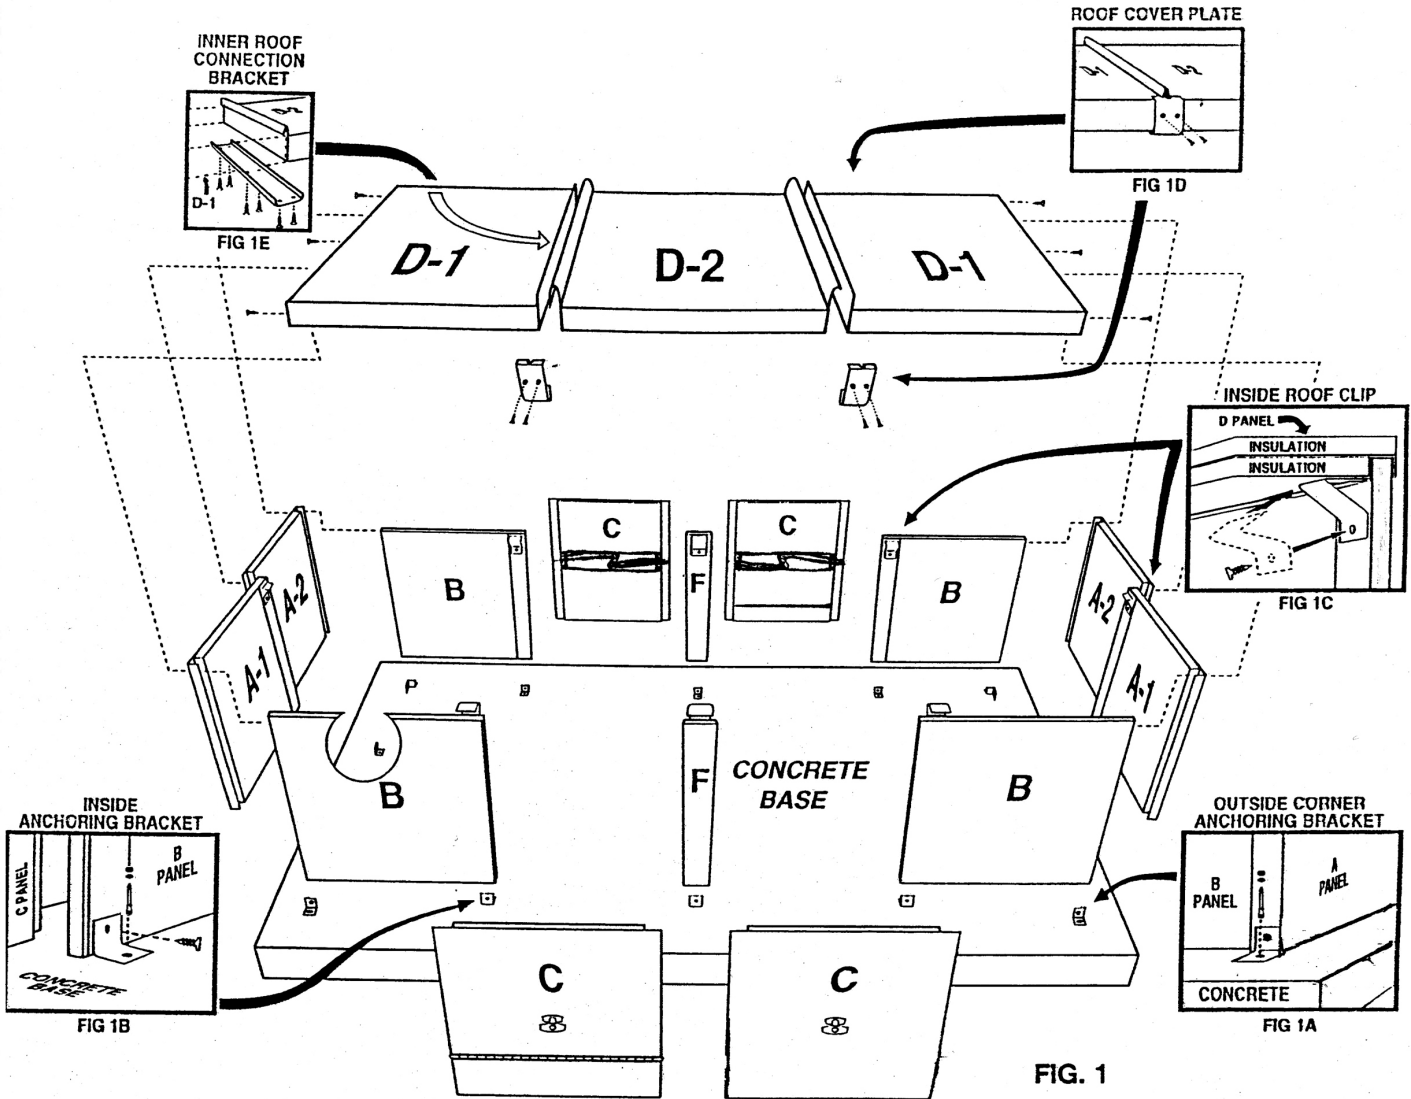

FIG. 1
3. Set "D1" (roof) panel on "A-B" section. Using three (3) hexhead screws fasten "D1" (roof) to "A-B" section thru holes provided (FIG 1).
- D. Using one (1) hexhead screw for each bracket attach **Inside Aluminum Anchoring Bracket** to "A2" panel on inside at bottom. Use one (1) wedge anchor for each bracket. Attach bracket to concrete (Fig 1).